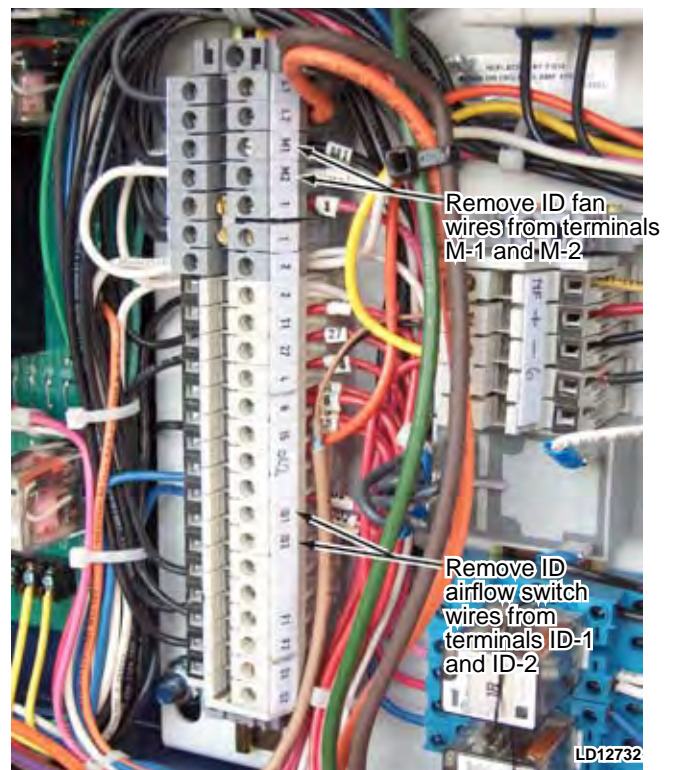

FIG. 5-126 – REMOVE ID FAN WIRES AND ID AIRFLOW SWITCH WIRES
2. Remove ID fan wires from terminals M-1 and M-2. Remove ID airflow switch wires from terminals ID-1 and ID-2 (*see Fig. 5-126*).
13. Install ID fan conduit and wiring into control panel area. Attach wiring in the same positions as removed in step 2. Refer to Figs 5-126 & 5-127.